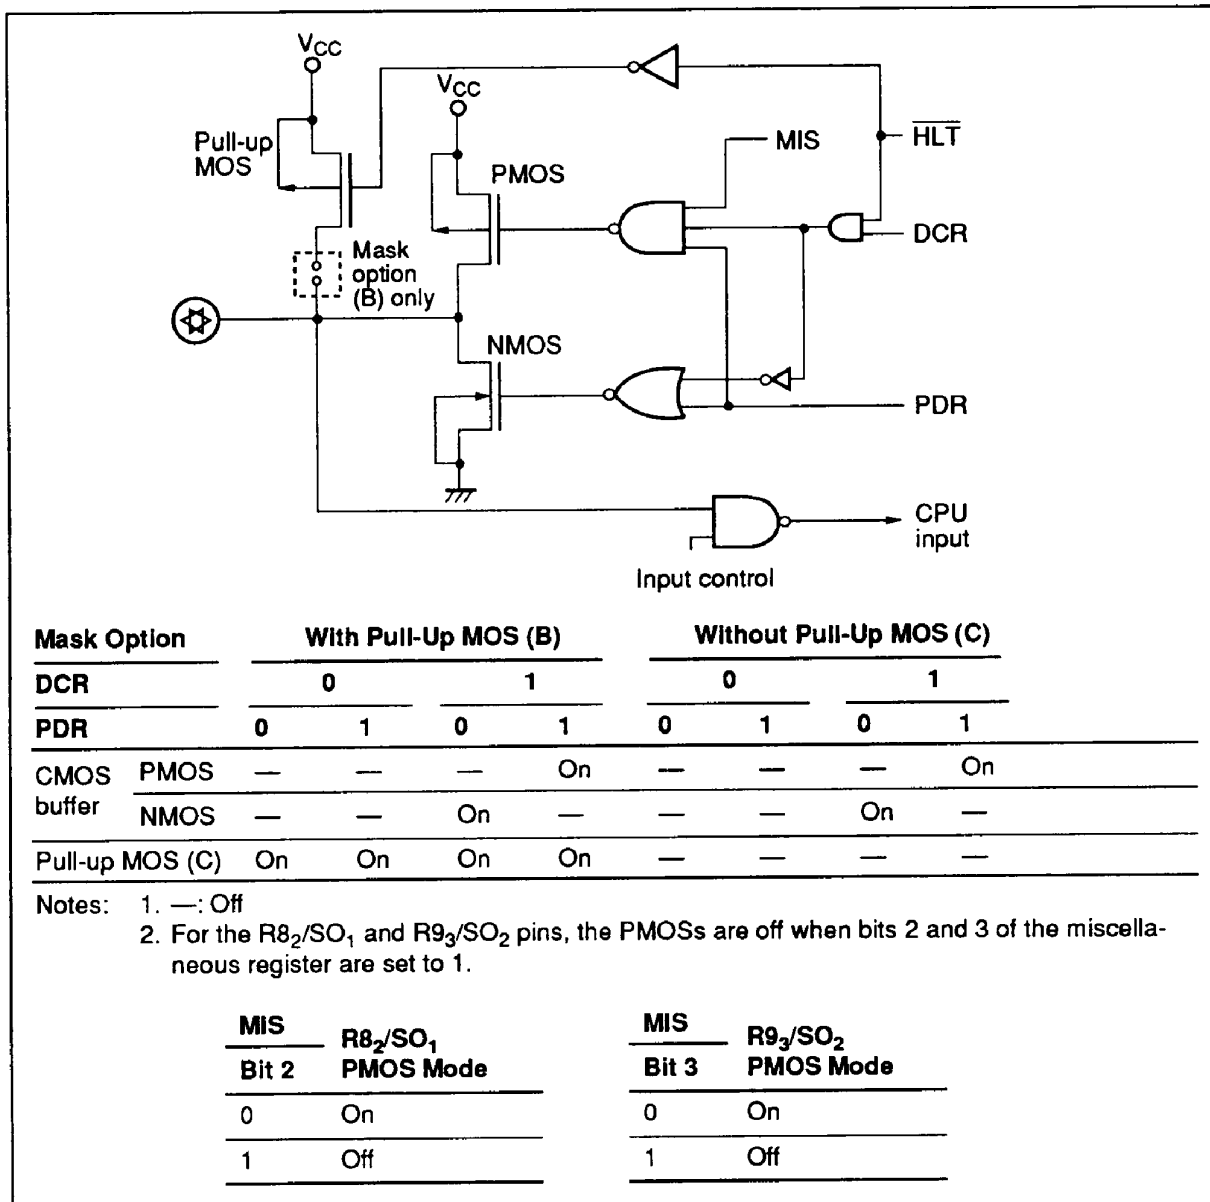

Figure 21 Input/Output Buffer
Mask Options: The circuits of the HD4074719 are either without pull-up MOS (C) or without pull-down MOS (D), as shown in table 25 and figure 21. Options either with pull-up MOS (B) or with pull-down MOS (E) can be selected for the HD404719, and an option with pull-up MOS (B) can be selected for the HD404439. However, note that these MCUs are not compatible with the HD4074719.